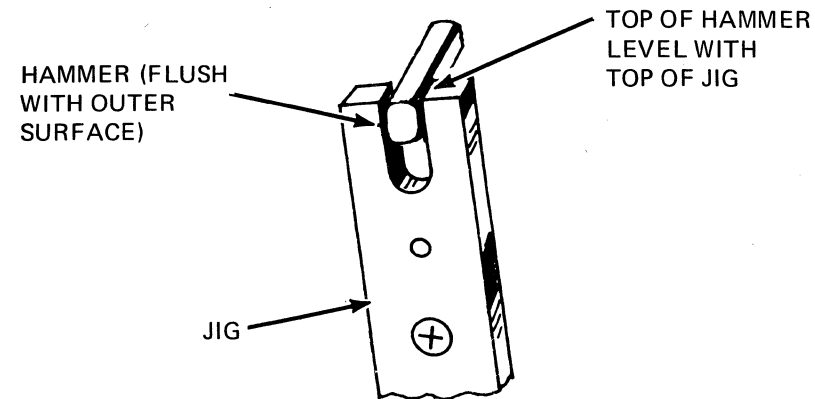

Figure 5-2 Hammer Head to Jig Slot Alignment
- d. Align the top and end of the hammer in the jig as shown in Figure 5-2, then tighten the holding screws B (both sides).
To make an added check, replace the print thimble with the hammer position jig while power is on. The hammer should align in the jig slot. Remove the jig before powering off the printer (see Figure 5-2).